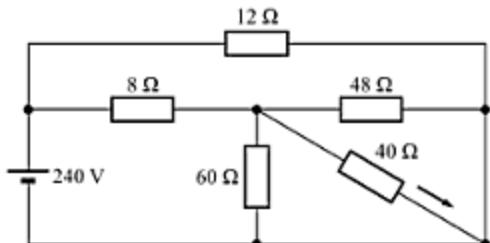

Fig. A-110
- A-77. Find the current I in the circuit of Fig. A-110. [Ans. 4 A]